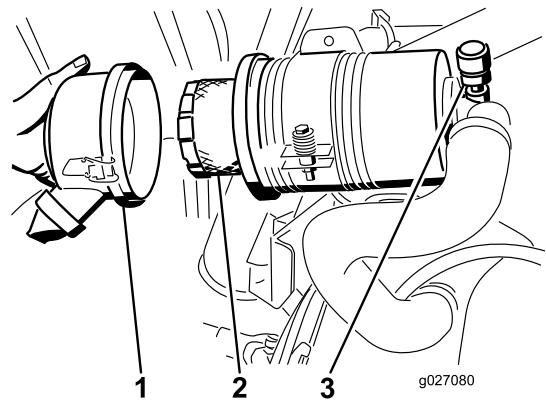

Figure 56
4. Remove and replace the filter (Figure 56).